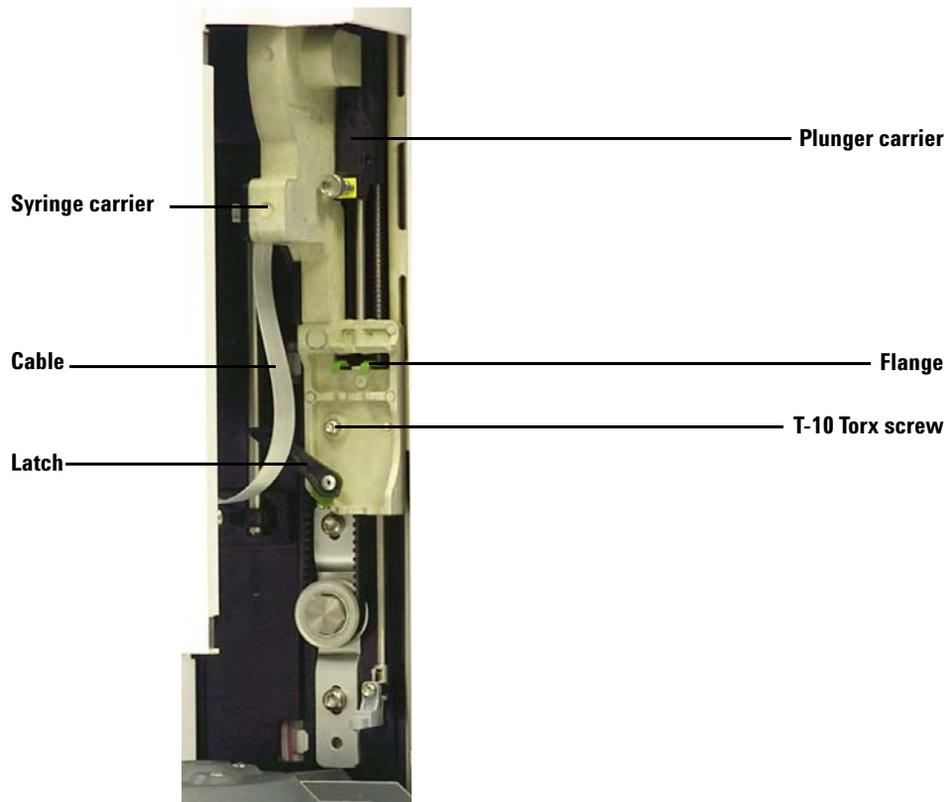

Figure 61 Removing the syringe carrier assembly
- 5 Slide the syringe carrier assembly completely up until the flange and latch are accessible (Figure 61).